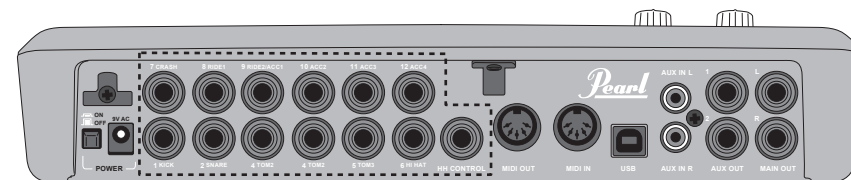

Fig.21
1. Each cable is marked with the name of the component it connects to. Take the bundled side and match the cable to its corresponding jack on the back side of the r.e.d.box (Fig. 21). **NOTE: The Ride Cymbal has two Jacks. Make sure to insert the cables into the correct Jacks**